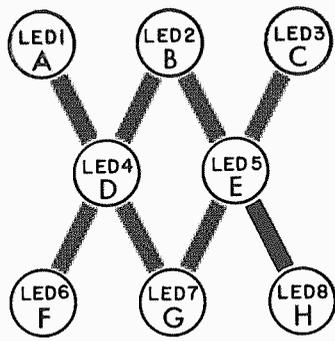
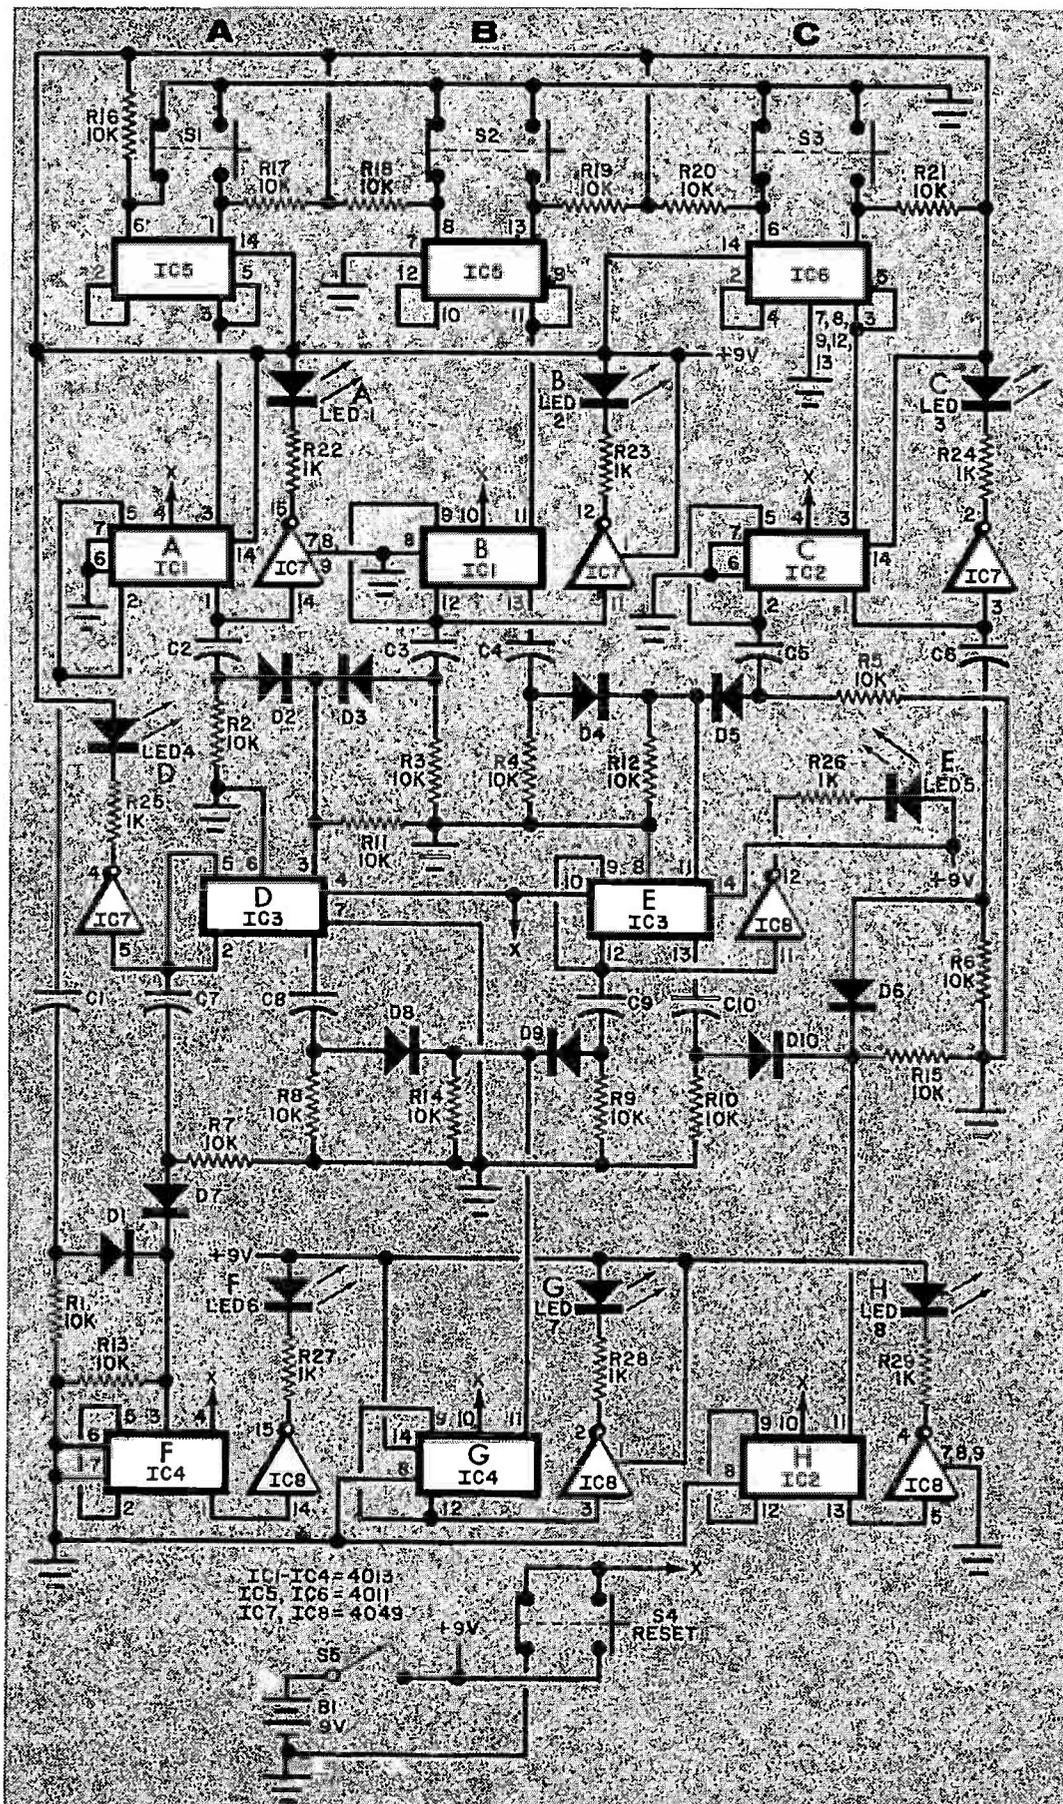

Fig. 2. Arrangement of LED's on the front panel of Flip.
Fig. 1
**Circuit Operation.** There are 8 flip-flops (A through H) connected as shown in Fig. 1. Eight LED indicators on the front panel show the state of each flip-flop (Fig. 2). A trigger pulse applied to a flip-flop reverses its state. Momentary-contact switches S1, S2, and S3 provide trigger pulses for flip-flops A, B, and C. For example, pressing switch S1 will trigger flip-flop A so that, if LED1 was on, it will go off, and vice versa. The transition from off to on also supplies a pulse to trigger flip-flop D. The reversal of D then supplies a trigger pulse to F or G.
The circuits in Fig. 1 actually form a number of 2- and 3-bit interacting counters. For example, flip-flops C, E, and G form a 3-bit binary counter that is triggered each time S3 is pressed. Figure 3 shows how this counter works. Pressing the reset switch, S4, sets the C, E, and G lights as shown in the top row. Now, repeated pressing of S3 causes the lights to go on and off in the 3-bit binary sequence shown in Fig. 3. The combinations of flip-flops BEH, BDF, ADF, etc. also form 3-bit binary counters.
The circuit in Fig. 1 also contains 8 "memory" cells which remember an 8-bit pattern. This pattern (or state) can be
In Fig. 1, IC5 and IC6 are quad 2-input NAND gates connected to form three set/reset flip-flops for debounce of the switches. Eight D-type flip-flops are provided by IC1 through IC4, which are triggered by a positive-going edge. Flip-flops A, B, and C are triggered directly by the three debounce flip-flops. Flip-flops D, E, F, G, and H are each triggered by transitions of other flip-flops. The capacitance-resistance combinations differentiate the outputs of these flip-flops to form positive pulses. For example, C1-R1 and C7-R7 differentiate the positive-going not-Q outputs of A and D to feed an OR gate formed by D1 and D7 and trigger flip-flop F. Trigger pulses for D, E, G, and H are derived in a similar manner.
The eight LED's and the three switches are mounted on the front panel as shown in Fig. 2 and the photo. Also mount the